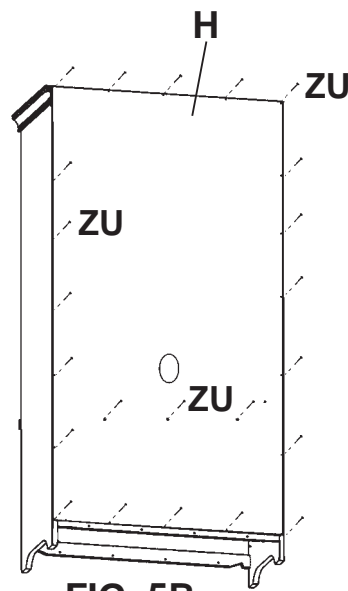

FIG. 5B
Lay the Back (H) on the unit so that it can be fastened to the Sides, Top, Center Shelf and Sleeper with #6x5/8" Philtruss Screws (ZU) through the predrilled holes in the back. See FIGURE 5B.